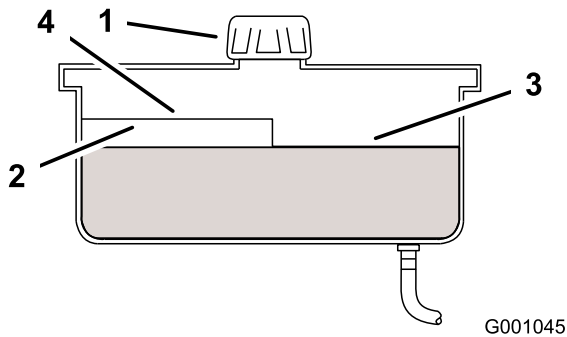

Figure 74
2. Clean the area around filler neck of hydraulic tank (Figure 74).
3. Remove the cap from the filler neck. Look inside to check if there is fluid in the reservoir (Figure 74).
- Note:** The fluid level should be to the top of the hot level of the baffle, when the fluid is hot (Figure 74).